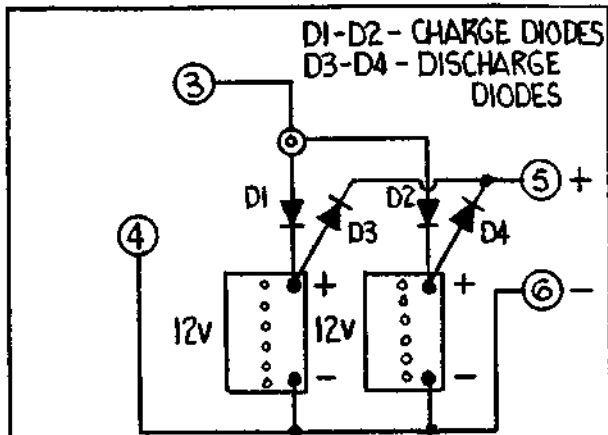

FIG. 4-7A: DISSIMILAR BATTERIES
(1) try to get batteries of equal amp-hour capacity when using 12-volt automotive batteries. You can use a wide variety of ratings but you may have to install diodes (see Fig. 4-7A) to prevent them from discharging into one another (or into the weakest one, of least capacity, or most 'local action' -- self-discharge). For each battery, 2 diodes would be required; they are not very expensive, nor are they difficult to install, but it's a bit of a hassle.